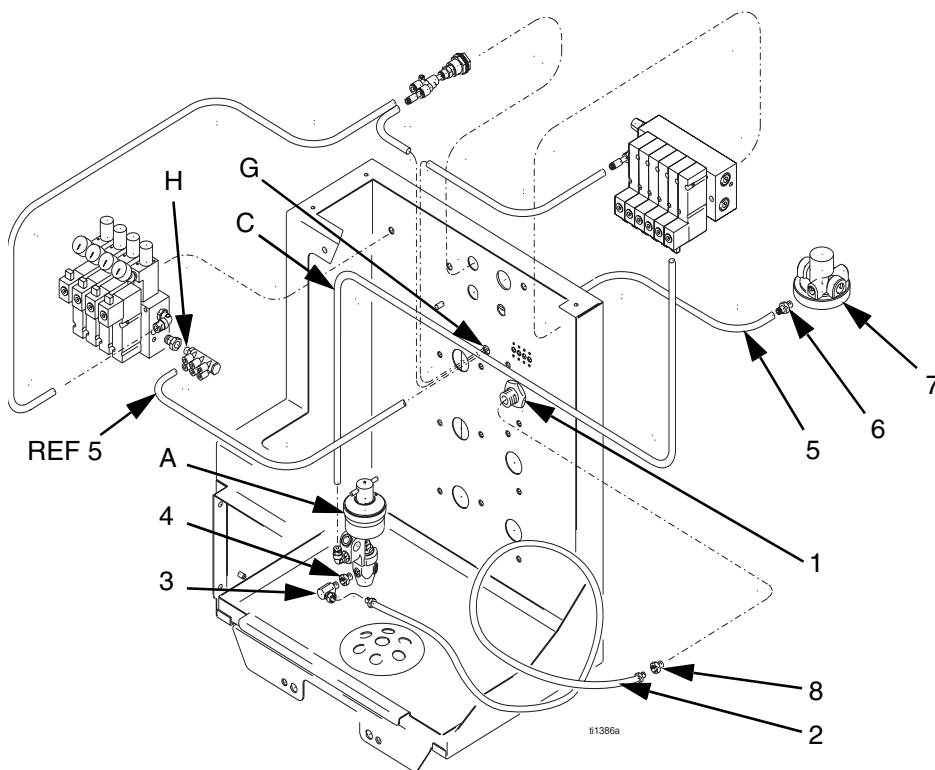
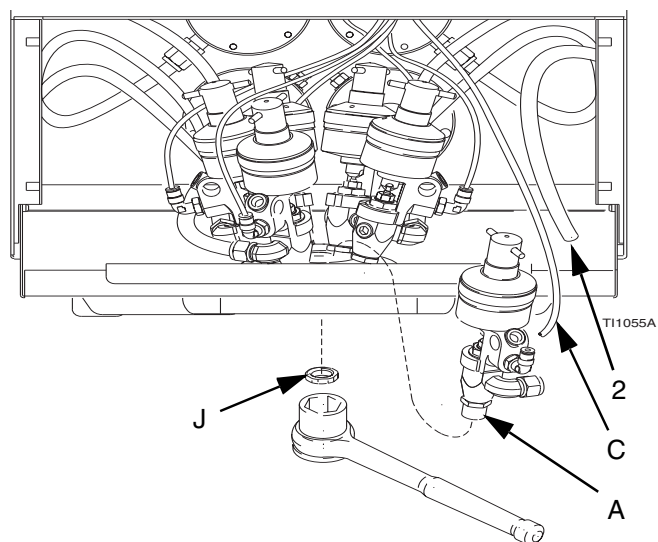

FIG. 2
FIG. 3
Kit includes following parts. See **FIG. 2**.
8. Feed new tubing (5) through hole (G) and connect to the solenoid/regulator bank manifold (H). See **FIG. 2**.
9. Mount air regulator (7) to air supply on pump. Regulator port is 3/8 npt(f).
10. Install tube fitting (6) into air regulator (7), and connect tubing (5) to fitting.
11. Install nipple (4) and 90° fitting (3) in dispense valve fluid inlet.
12. Install 1/4" dispense valve (A) in desired port in the tray and secure it with the nut (J). See **FIG. 3**. Be sure that PTFE-coated side of nut (J) faces the valve.
13. Assemble bulkhead (1) into empty regulator port. See **FIG. 2**.
14. Install bushing (8) on end of fluid hose (2). Connect hose between bulkhead (1) and dispense valve fitting (3).
Place a loop in the fluid hose (2) as shown in **FIG. 2** and **FIG. 3** to avoid crimping it.
15. Reconnect the pneumatic tubing (C) to the dispense valve air inlet.